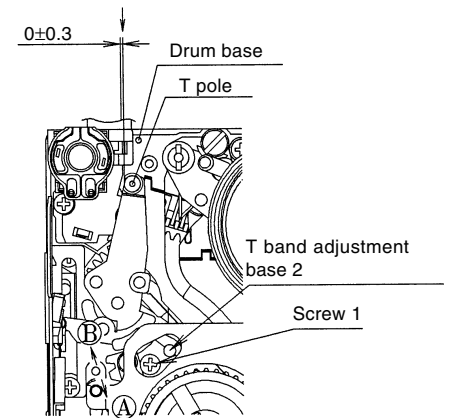

Fig.4 Adjusting of position (tape exists)
Check that the tension pole is located in the prescribed position as shown in Fig.4 at the start of a 60-minute tape.
(2) Adjusting (See Fig.4.)
(For how much the T band adjustment base is to be shifted, refer to Fig.4.)